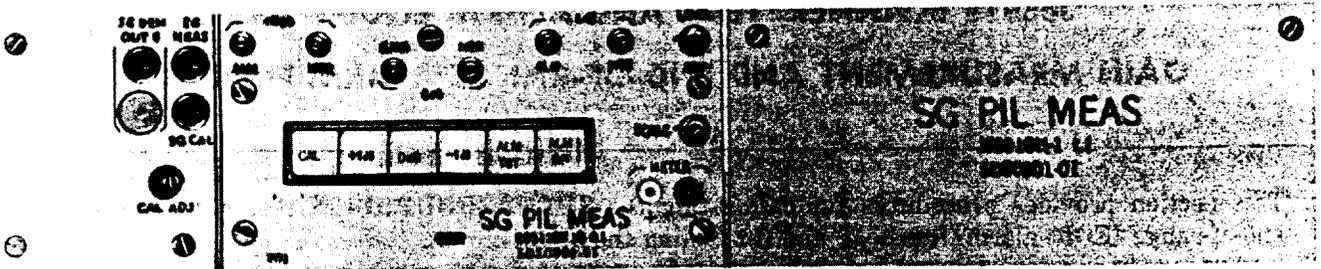

Fig. 1—Pilot Level and Gain Measuring Panel
- 2 Set the VOM to the 12-volt dc scale and connect the VOM leads to the METER pin jacks on the pilot level and gain measuring panel (Fig. 1).